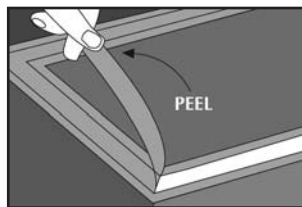

Figure 4.
3. Allow painted area to cool to ambient temperature before removing mask portion of tape (Figure 4). Mask should be removed immediately after cooling as it will reestablish adhesion within 24 to 48 hours. If the mask does regain adhesion it can be removed by reheating to the recommended bake schedule listed above.